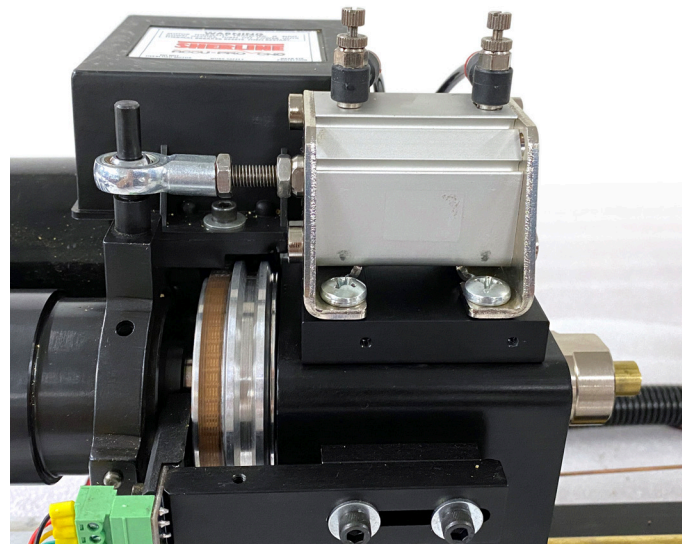

FIGURE 39
7. The air cylinder should be activated and the cylinder piston should retract (collet open, see Figure 39).